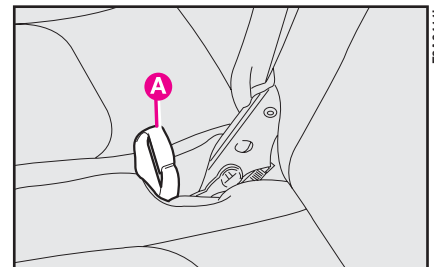
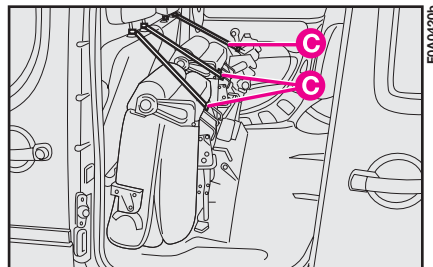

fig. 129
fig. 131
- tilt the central seat back pulling band **A-fig. 129** upwards;
- secure tilted seats by the proper belts **C-fig. 131** (one per seat) to the front headrests.
To re-position the seats, release the belts **C-fig. 131**, tilt the side seats and the central seat cushion then pull band **A-fig. 129** to tilt the seat back and anchor it to the proper brackets.